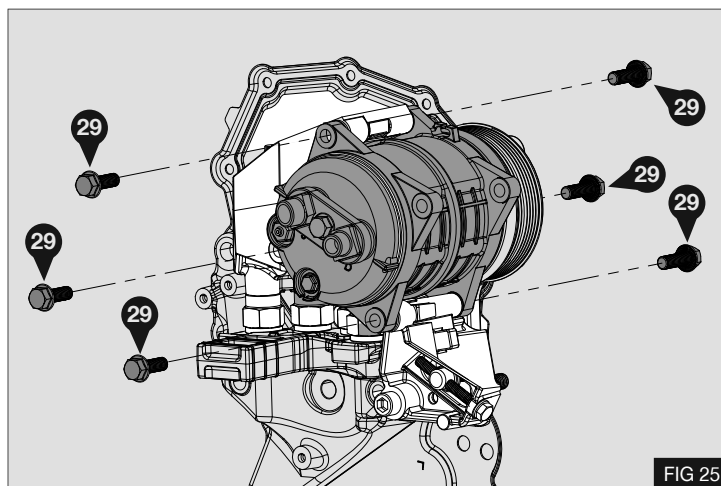

FIG 25
1. Install the refrigerant compressor and secure using 6x M10 x 30 flange bolts (29) - Fig 25